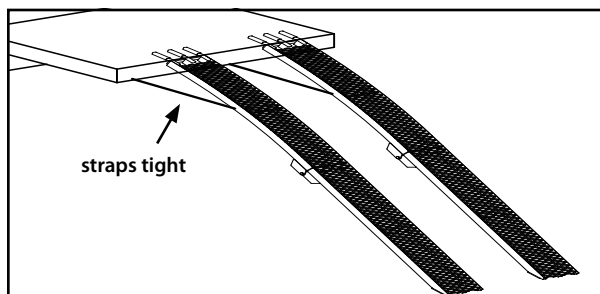

Figure 2
1. On level ground, rest both ramps on the tailgate. **SEE FIGURE 2.** Be sure ramps are centered on tailgate and aligned correctly to your four-wheeled ATV or lawn tractor's wheel width.